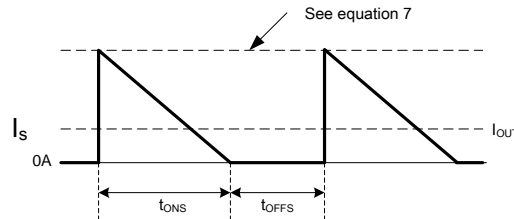

Figure 4. Secondary Current Waveform
The AP3984 is designed to work in constant current (CC) mode. Figure 4 shows the secondary current waveforms.